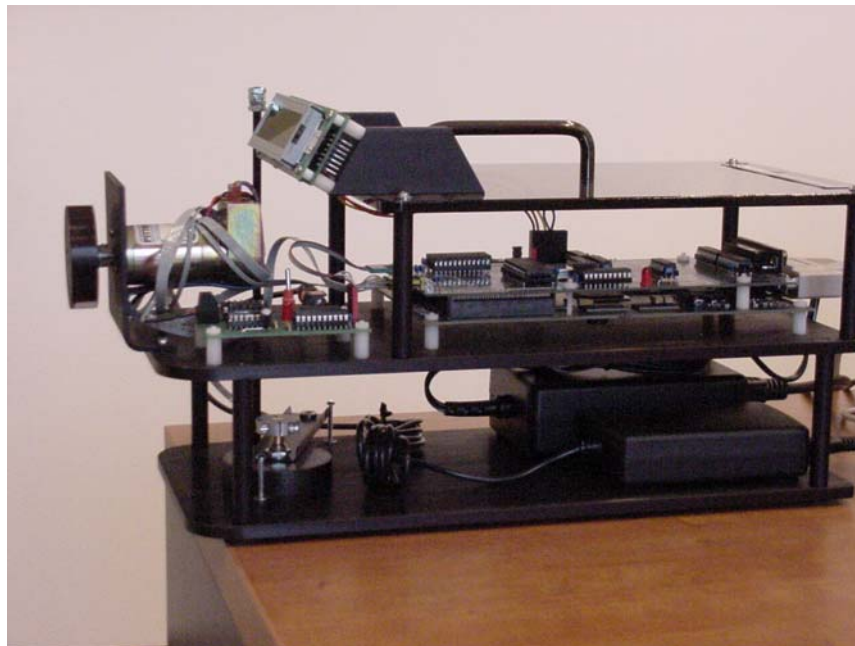

Figure 5-3: DC-Motor Control Setup
4. Attach the flywheel using a 5/64" Allen wrench. Slide the flywheel until the motor shaft protrudes slightly from the back end of the flywheel. See Figure 5-3.